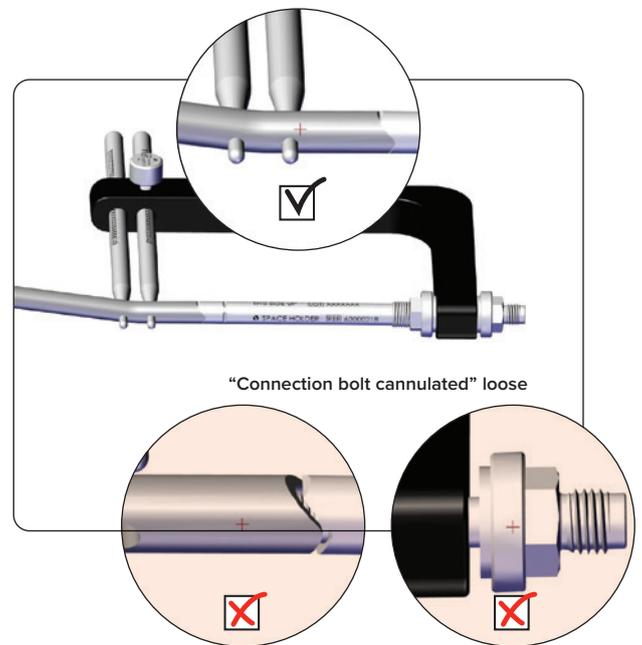

Fig. 50 Connection bolt loose
4) The FITBONE is loosely fixed to the “connection bolt cannulated”. (**Fig. 50**)